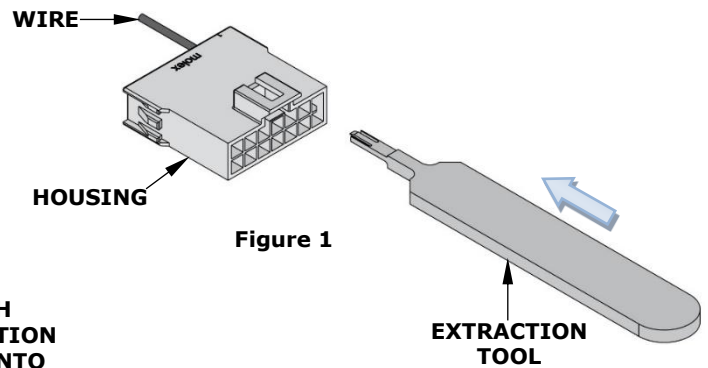

Figure 1
2. Position the extraction tool as shown in Figure 1.